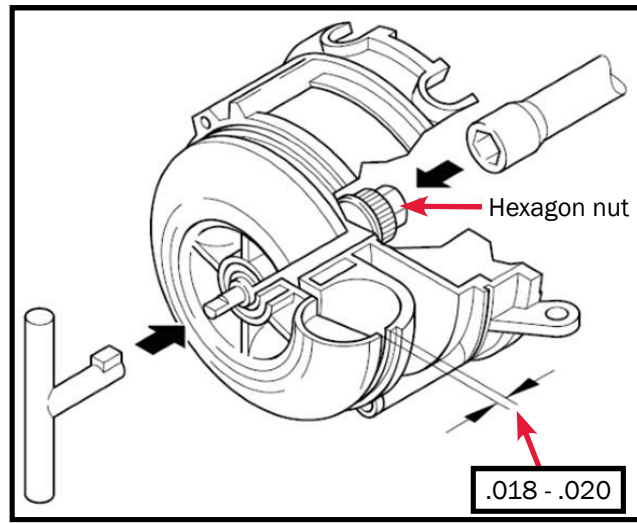

Figure 120a
- Place a feeler gauge between the combustion air blower and the flat surface of the blower casing. Slowly tighten (or loosen) the retaining nut, holding the combustion air blower, until a .018 - .020 gap is achieved. Remove feeler gauge. Reference Figure 120a.